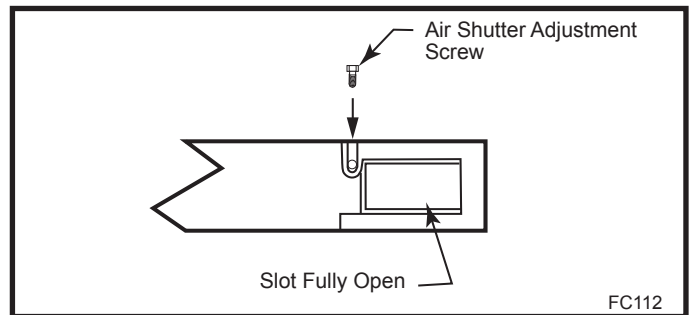

Fig. 71 Adjust air shutter to fully open.
9. Loosen the adjusting screw that holds the air shutter to the burner tube. Rotate the air shutter to the fully open position. (Fig. 71)
10. Install the burner tube and secure with the two (2) screws removed earlier.